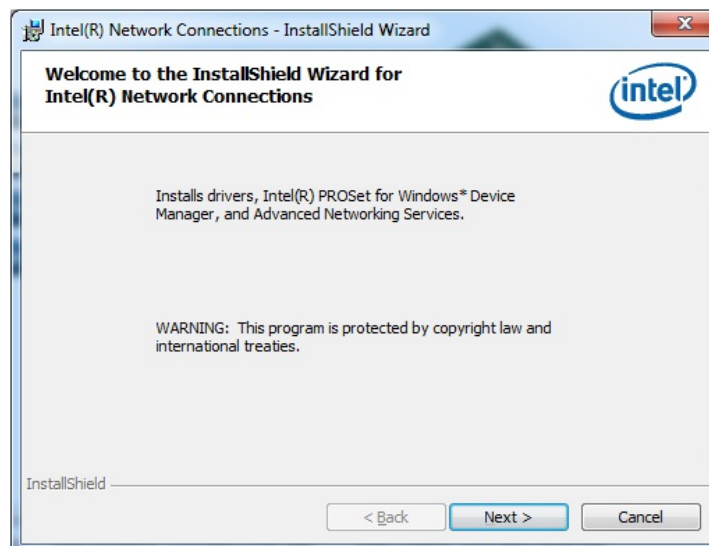

Figure 6-9: LAN Driver Welcome Screen
Step 7: The **Welcome** screen in **Figure 6-9** appears.